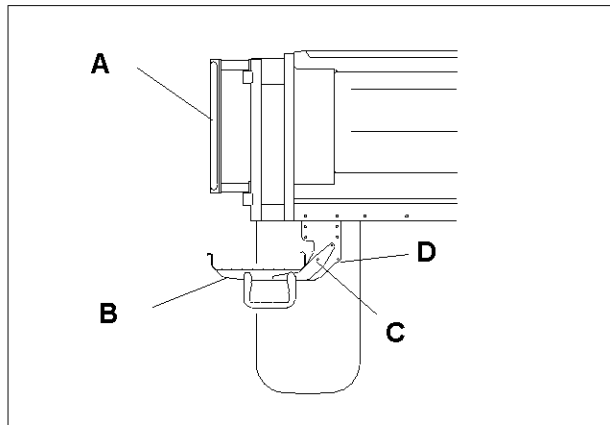

Fig. 78
The rails (fig. 78/A) at the left hand side must be removed. The operators platform and in-step (B) should be folded up about pivot point (C) in order to reduce transport width (reduction 250mm). Fasten the transport lock at (D).